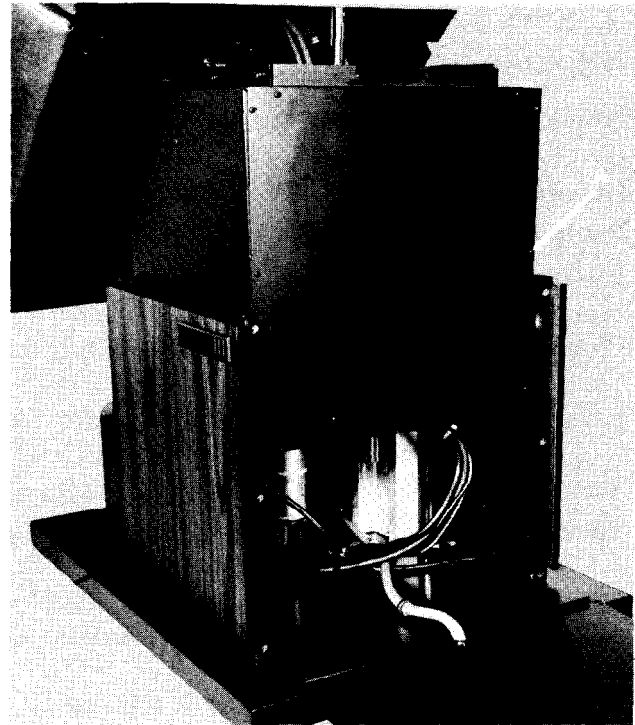

Fig. 14
Remove front inner shroud by removing (8) small screws, (Item A, Fig. 14).